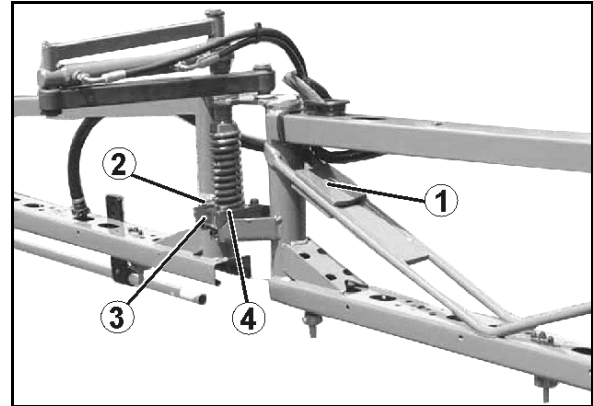

Fig. 146
1. Unscrew the magnetic cap (Fig. 146/1) abschrauben.
2. Remove the solenoid (Fig. 146/2) abnehmen.
3. Unscrew the valve rod (Fig. 146/3) with valve seats and clean with compressed air or hydraulic fluid